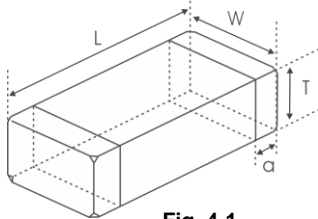
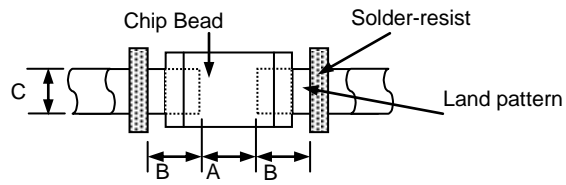

Fig. 4-1
Fig. 4-2
- 1) Dimensions and recommended PCB pattern for reflow soldering: See Fig.4-1, Fig.4-2 and Table 4-1